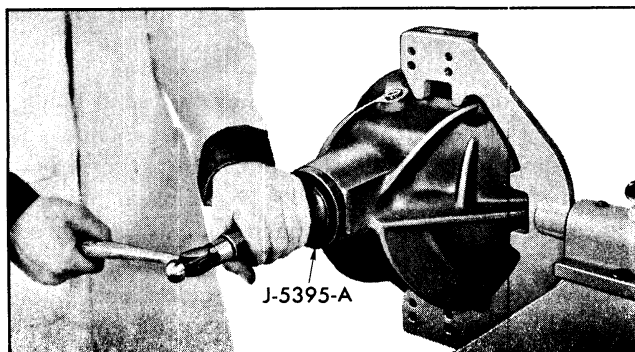

Fig. 4-48 Installing Pinion Oil Seal
17. Install new front seal using J-5395-A (Fig. 4-48).